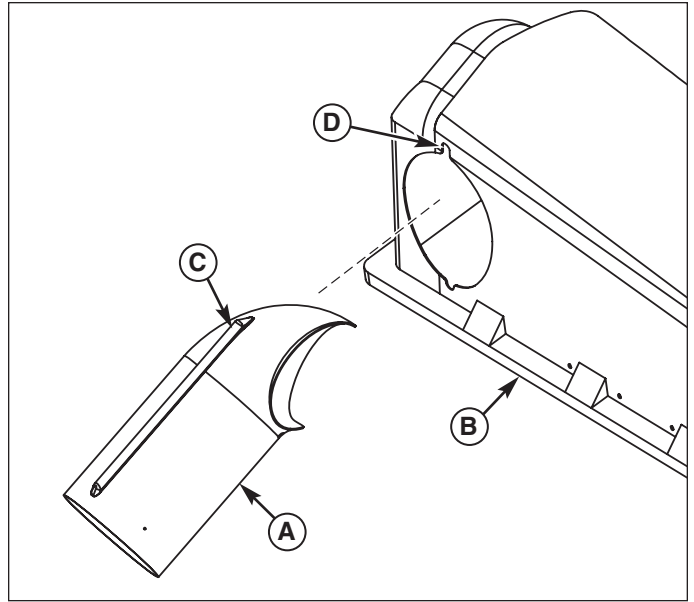

Figure 14. Install Upper Tube to Cover
1. Slide the upper tube (A, Figure 14) into cover (B) aligning ridge (C) with cutout (D) as shown.